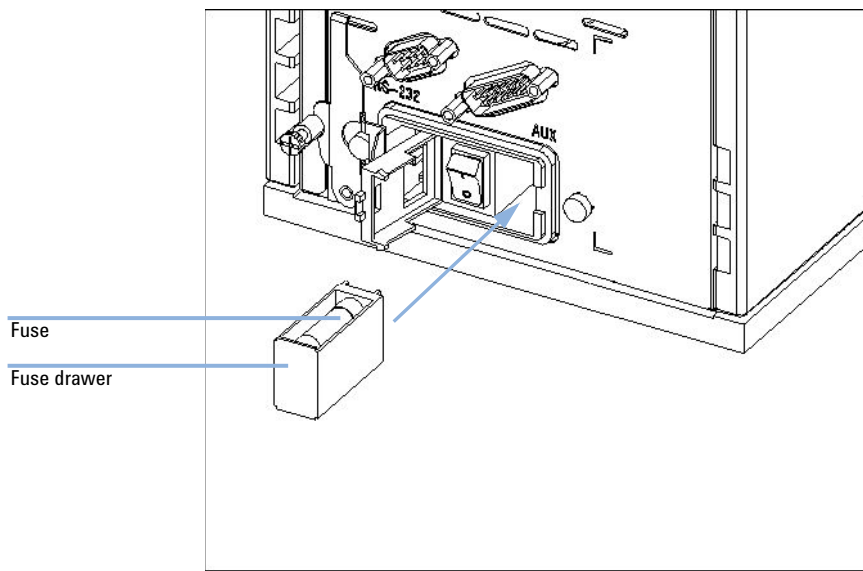

Figure 12 Insert fuse drawer
- Slide in the fuse drawer and push till it fits tightly as shown in Figure 12 on page 142.